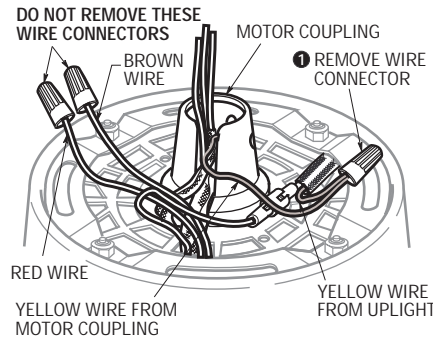
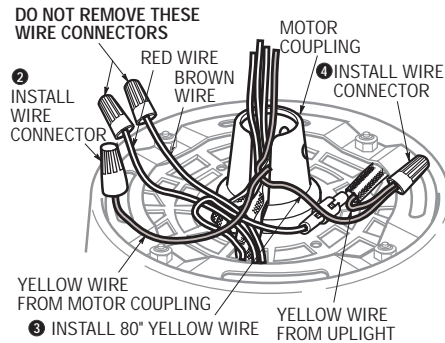

Figure 8
Figure 9
**14. For Ceiling Fan Models CF4500 and CF4800 Only.** Locate the two yellow wires terminated by a wire connector. Remove the wire connector and separate the wires (Figure 8). One yellow wire comes from the motor coupling; cap the end of this wire using a wire connector (supplied) (Figure 9). Separate, untwist and unkink the 80" yellow wire lead (supplied with the fan) and cut off the connector from the end of the wire. Strip 1/2-inch of insulation from the end of this wire. Then join the 80" yellow wire to the yellow wire from the upright using a wire connector (supplied). (Figure 9).